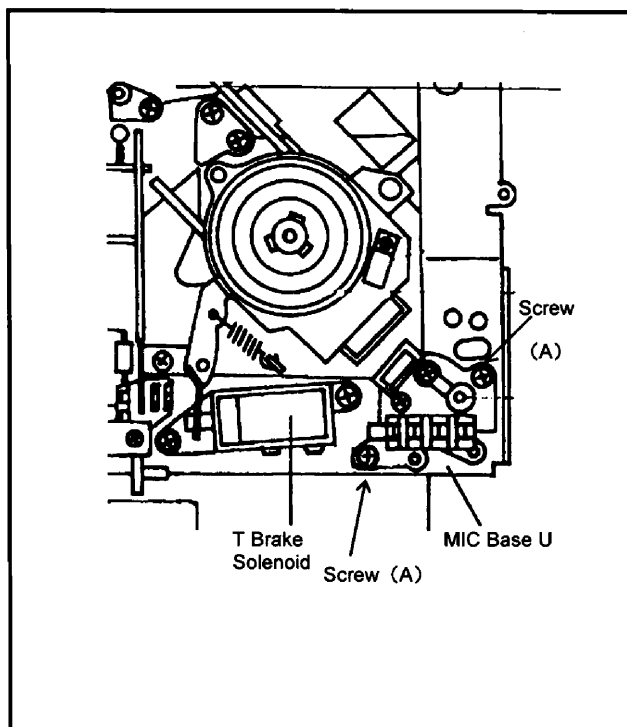

Fig.M15
3. Unscrew the 2 screws (A) and remove the MIC Base Unit as shown in Figure M15.